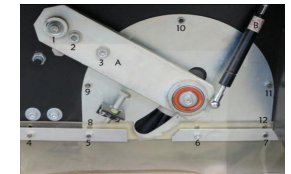

Figure 8
4. Opens the left-side door (9)
6. Unscrew inner hexagon screws # 1,2,3 (Figure 8) to pull out accessory A.
7. Unscrew nuts No. 4,5,6 and 7 (Figure 8) and pull out the edge cover.
8. Unscrew nuts No. 8,9,10,11,12 (Figure 8) and pull out the fitting semicircular.